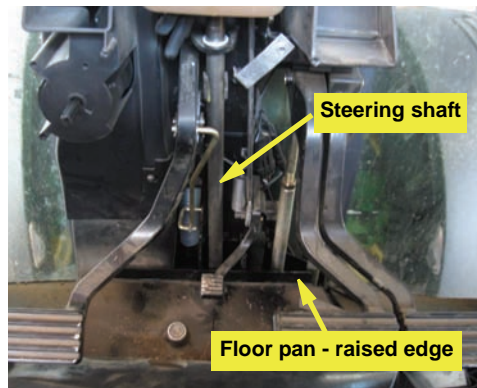

Figure 1b: Floor pan edge and steering shaft
b. With the column covers removed, peel back the rubber flooring to expose the steering shaft and the raised front edge of the metal floor pan (Figure 1b).